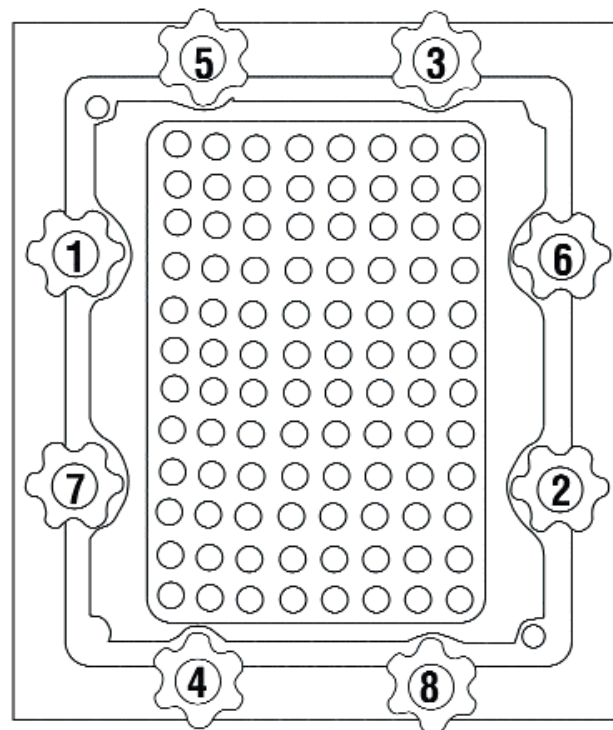

Figure 4 - 96-well bold tightening sequence
6. Place all 8 thumb-screws into the MicroDialyzer and, using the sequence indicated in Figure 4, tighten them finger-tight.
7. After tightening all 8 thumb-screws, retightened them, again using the sequence indicated in Figure 4
experiment was performed. The results are shown in Figure 4. In this experiment, a 16 well 150 μl MicroDialyzer was used with a 15,000 MWCO membrane. Three sample sizes (25 μl , 50 μl and 100 μl) of a 0.125 M NaCl, 0.200 M Tris, pH 7.0 solution were dialyzed against pure water. At predetermined time intervals, the conductivities of the samples were measured to determine the amount of salt remaining.